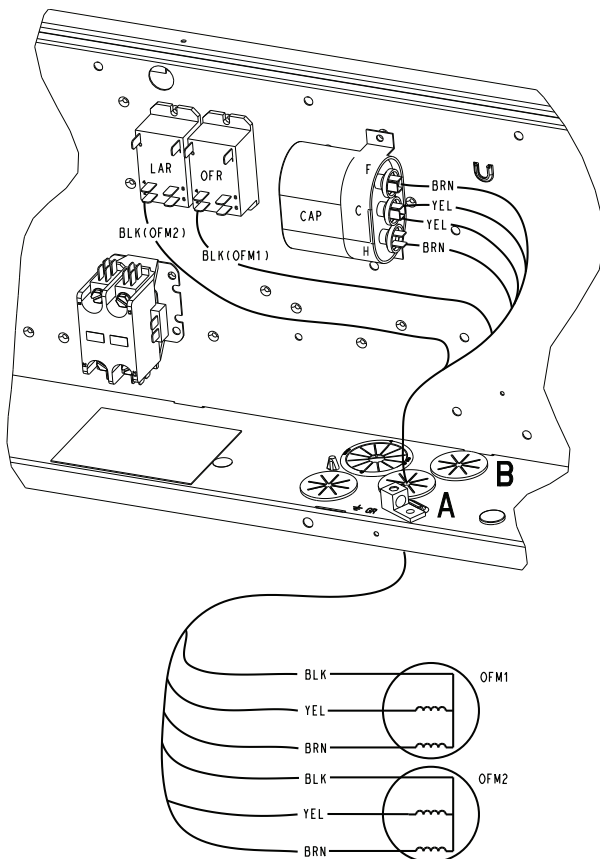

Fig. 2 — Motor Wiring Inside Control Box
4. Disconnect condenser motor wires from control box connections. See Fig. 2 for connections.
6. Connect the yellow and brown wires from the new motor(s) to the condenser capacitor. Connect the black wires to the same location removed in Step 4 and Fig. 2.
- a. Route HV harness through the hole marked “B” in Fig. 2, with the heat shrink yellow wire end going into the control box.